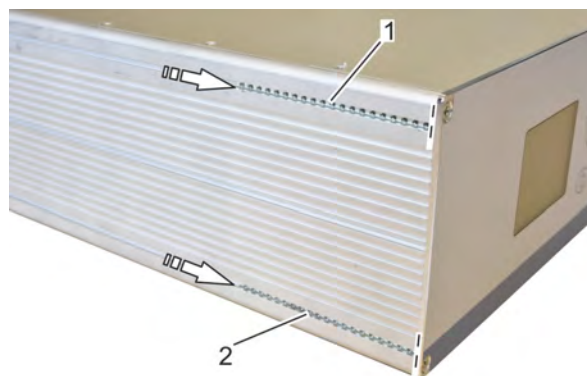

Fig. 66: Positioning rails
2. ➤ Move both rails (Fig. 66/1 + 2) on one side fully towards the front panel.